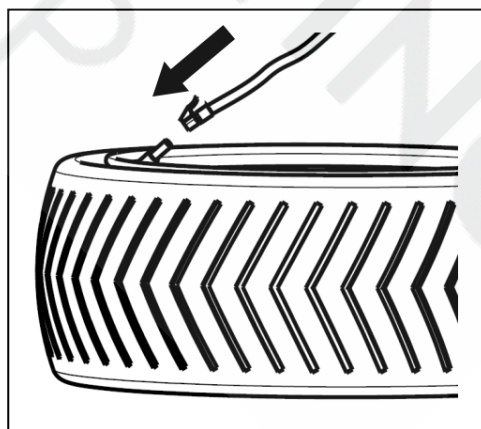

FIG33
- Connect the inflation hose with the tire air core. See FIG33.